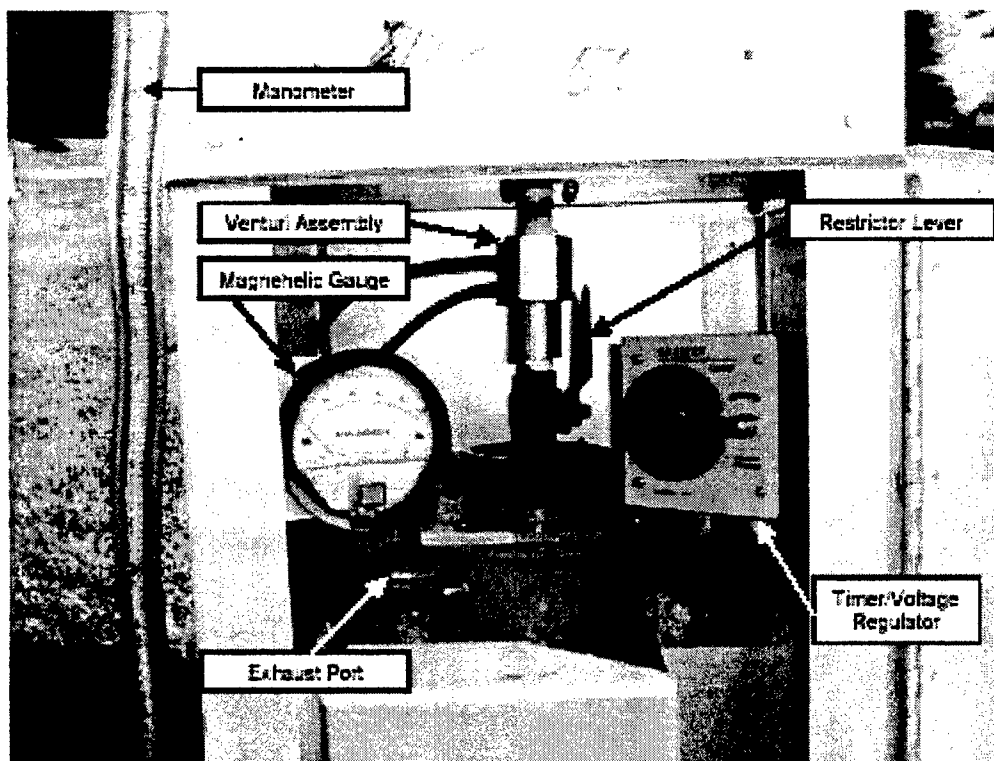

Figure 6-5-1-2. Interior section of PS-1
- 2.) Record the manometer deflection from the orifice in the "Manometer" column on the "PS1 Calibration Sheet" - Calibration Data Section. Reading taken to the nearest 0.05 inch on each leg, then added. See Figure 6-5-1-2.